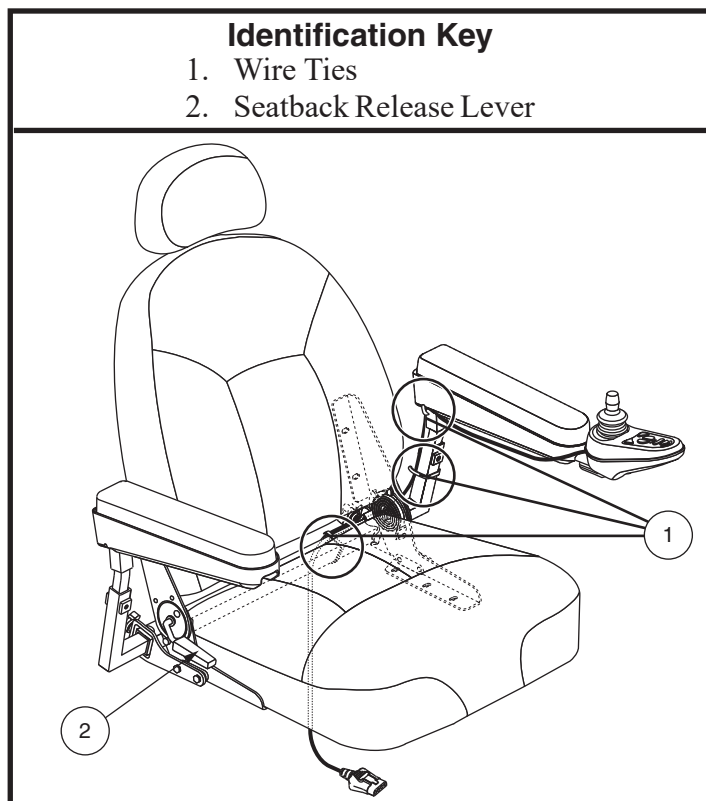

Figure 12. Jazzy Select 6 with Power Seat Controller Routing
5. Lift the armrest straight up, then route the controller harness and secure with wire ties as shown in figure 12.
If your power chair is equipped with a manual recline seatback, you can adjust the seatback angle with the seatback release lever. The lever is located on the right side of the seat base. See figure 12.